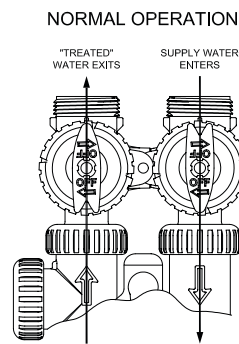

figure 1
**1. Normal Operation Position:** The inlet and outlet handles point in the direction of flow indicated by the engraved arrows on the control valve. Water flows through the control valve during normal operation. During the regeneration cycle, this position also allows the control valve to provide regeneration water to the filter while also providing untreated water to the building plumbing system. (see figure 1)
When water is flowing steadily to drain, clear and without the presence of air, plug the transformer into the receptacle to restore power. Momentarily press  again. Display will read **RINSE**. Place the bypass valve in the **NORMAL OPERATION MODE** (see figure 1 on page 4). Allow filter control valve to finish the **RINSE** cycle and automatically advance to the **FILTERING** position.